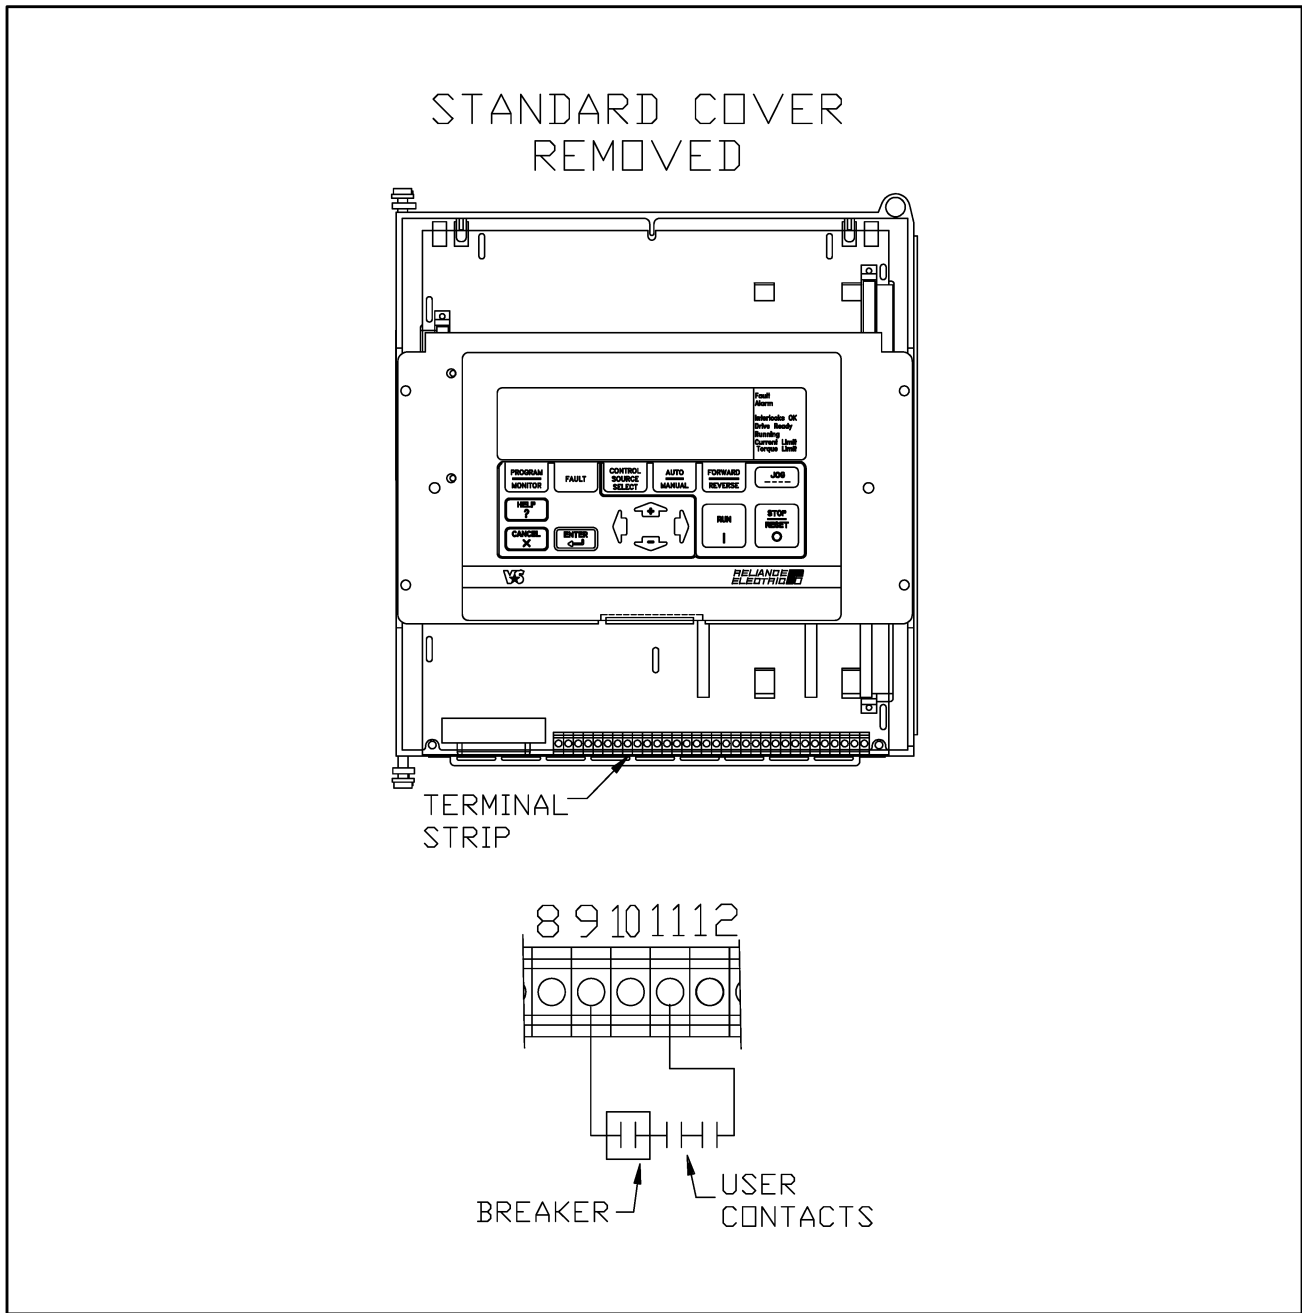

Figure 5 - Drive Control Terminal Strip
- Step 12. Connect the spade connectors of the twisted pair harness (part number 610273-68S) to the male connectors coming out of the side of the inverting fault circuit breaker. Route this harness down to the bottom of the drive and connect it to terminals 9 and 11 on the regulator control terminal strip. See Figure 5.